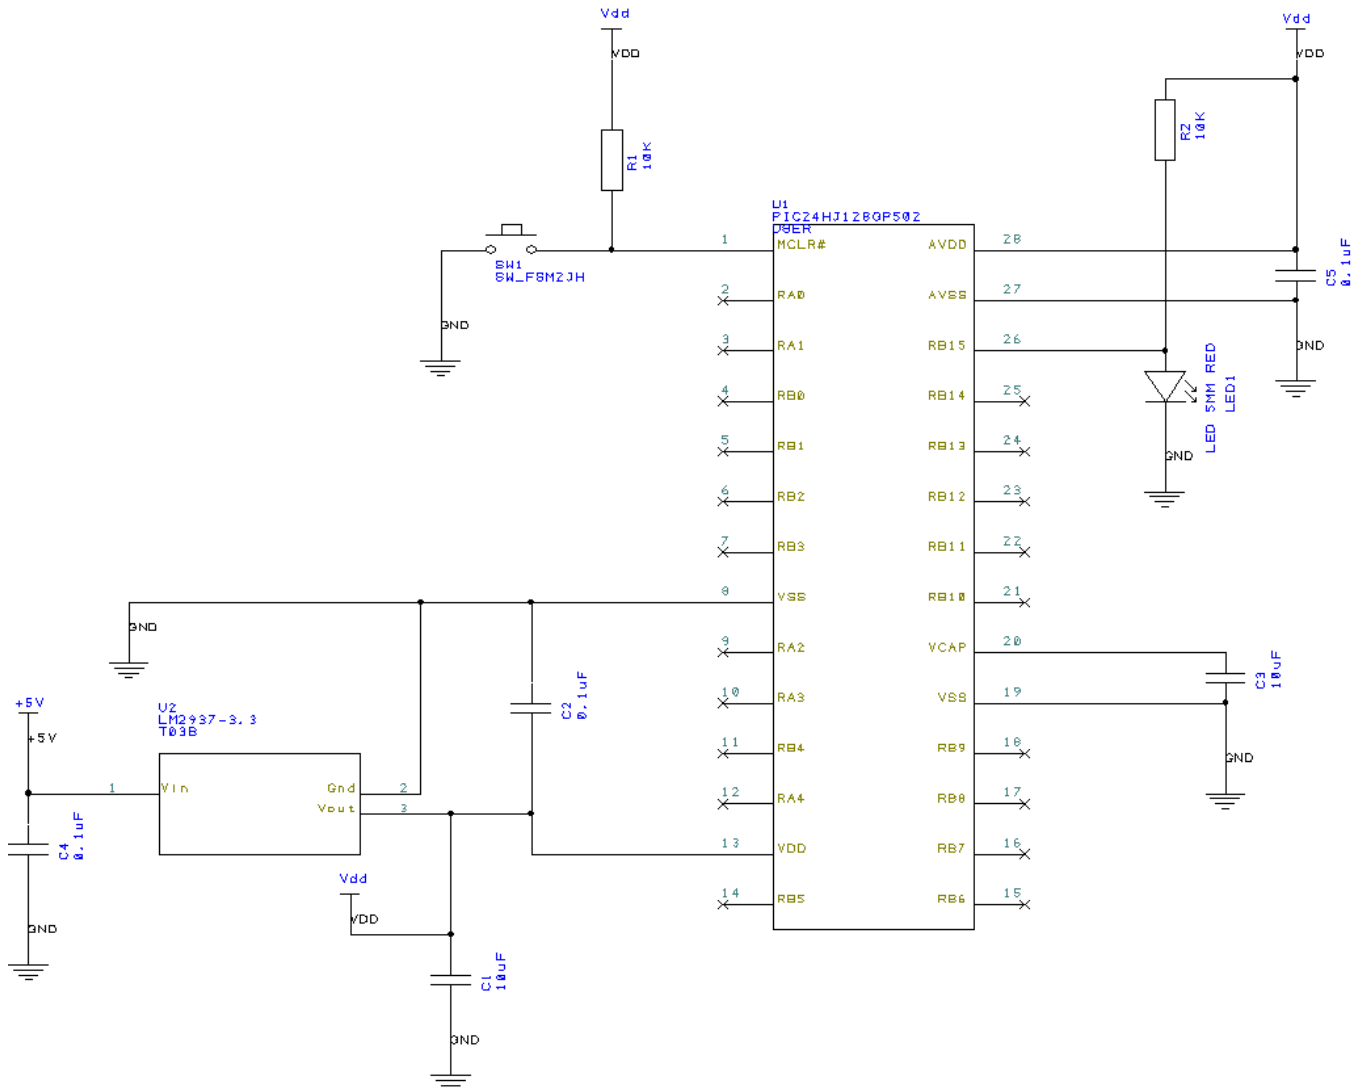

Figure 3. Basic PIC24 System Schematic
Using PCB Artist, create a basic PIC24 system as shown in Figure 3 below. This expands on your earlier design to include a switch (SW1) and LED (LED1) which could be used for user inputs (switch) and notifications (LED). You may use your schematic from the previous task as a starting point for this design. The resistor (RA) components, labeled R1-R2, are available in the *discrete* library. You should use the SW_FSM2JH component for the pushbutton and the LED component for the single LED in the system. These components are also available in the *discrete* library.